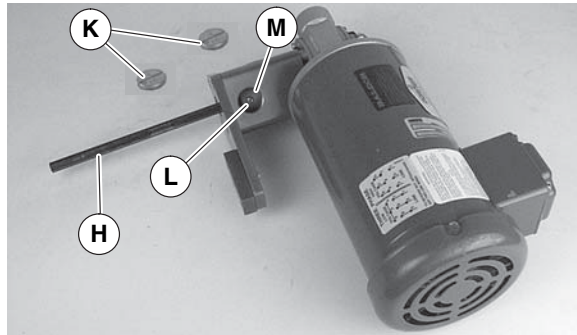

Figure 8
3. Remove inspection plugs (Figure 8, item K).
5. Jog motor and rotate coupling to align set screw (Figure 8, item L) with access hole (M). Tighten to 32 in-lb (3.7 N-m). Repeat for second set screw.